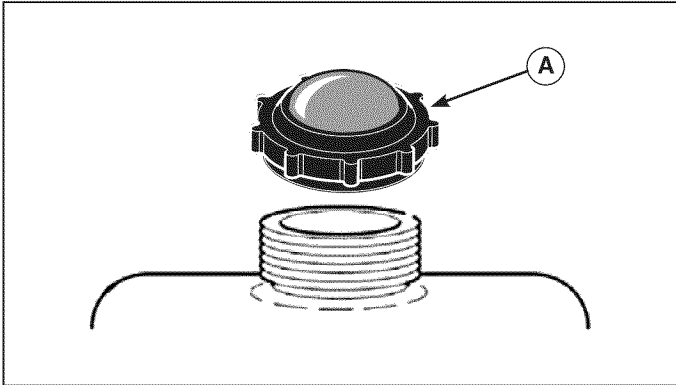

Figure 6
1. Clean the fuel cap area of dirt and debris. Remove the fuel cap (**A**, Figure 6).